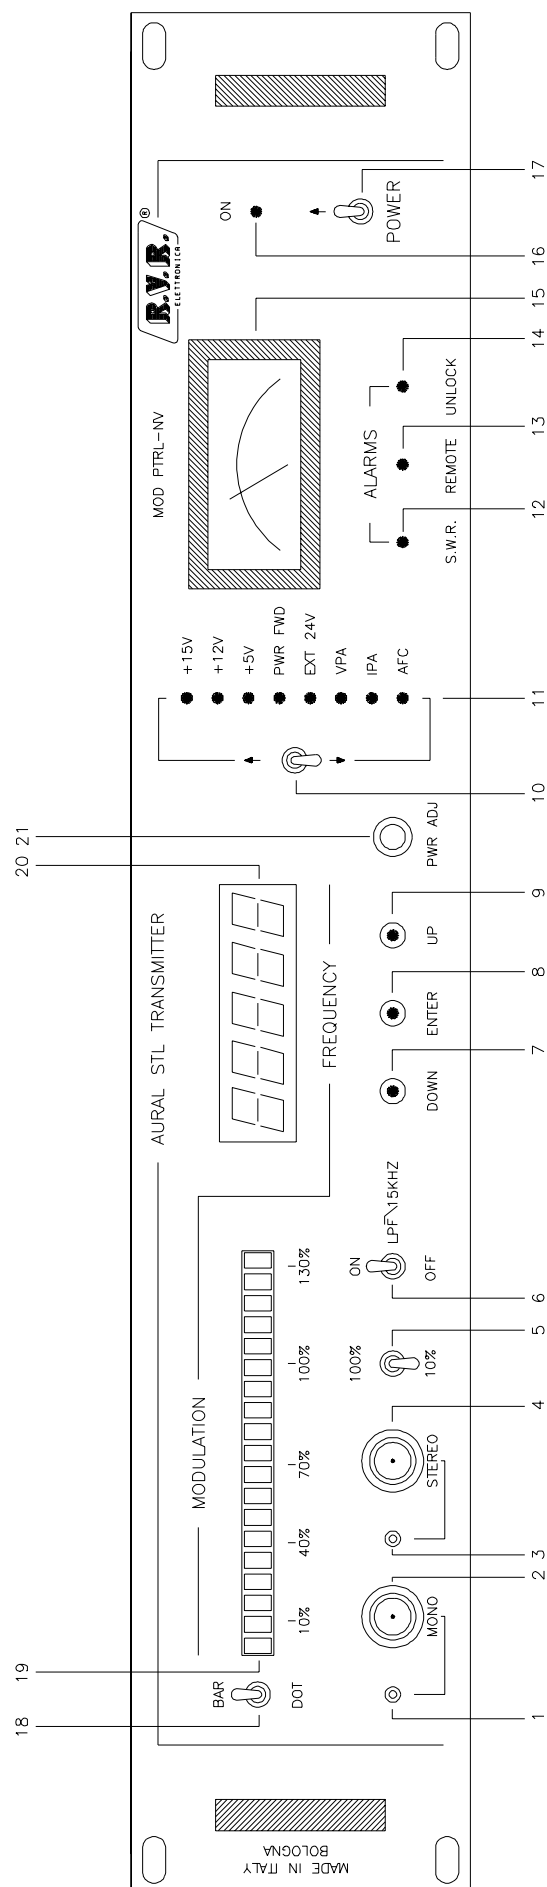

FIG. 1
FRONT PANEL VIEW DESCRIPTION (Fig.1)
6) Switch the power switch to the ON position and check that the green POWER ON led (16 Fig.1), the red UNLOCK led (14 Fig.1) and the led corresponding to the parameter selection PWR/FWD (11 Fig.1), are all lit.
After a few seconds the central display (20 Fig.1) will come on and display a number (eg. 1790.0) corresponding to the last operating frequency to have been programmed. The red UNLOCK led should switch off within 30 seconds indicating that the oscillator has locked to the operating frequency displayed. The display has five digits, 4 before the decimal point representing (from left to right) thousands of MHz, hundreds of MHz, tens of MHz and MHz; and 1 after the decimal point representing hundreds of KHz. To change this number, use the UP (9 Fig.1) and DOWN (7 Fig.1) buttons to respectively increase it and decrease it. Once the desired frequency has been found, press ENTER button (8 Fig.1) to confirm and save it.
version and 5W for the 5W version). To make this measurement, ensure that the PWR/FWD led is on by setting the switch (10 Fig.1) to the corresponding position and then take reading from the 2.5W FSD (10W FSD for the 5W version) scale on the meter
Set the modulation bar-graph display gain (5 Fig.1) to 100%.
Connect a low-distortion audio frequency generator to the MONO (2 Fig.1) or STEREO (4 Fig.1) inputs.
Check that the bar-graph display (19 Fig.1) lights up to the first red led, indicating 100% deviation.
Now disconnect the audio generator and ensure that all the bar-graph leds go out (19 Fig.1).
Set the control (5 Fig.1) to 10% and inject a 400Hz tone of -30dBm (-20dBm for the American version) and repeat the proceeding operation.